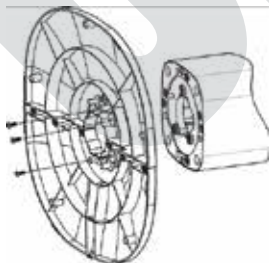

Fig. 3
6. Connect the base stand to the underside of the appliance and connect all parts using the provided screws (Fig. 3)